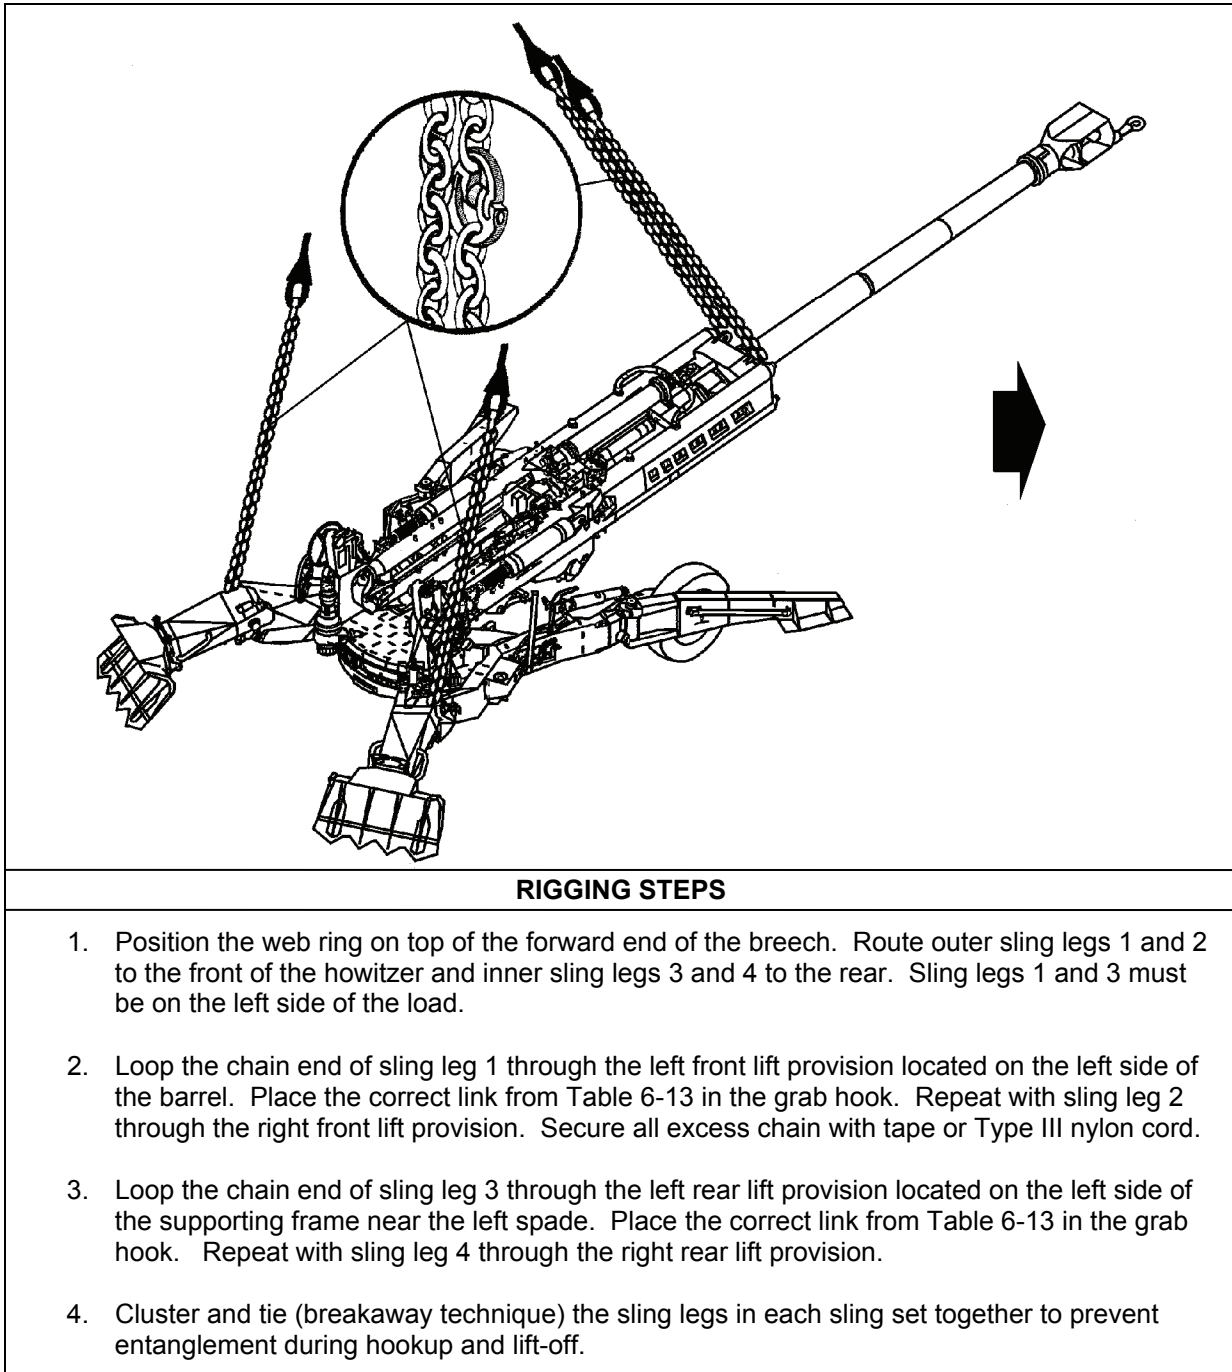

Figure 6-13. M777/M777A1/M777A2, 155-mm, Lightweight Howitzer
- **Rigging.** Rig the load according to the steps in Figure 6-13.